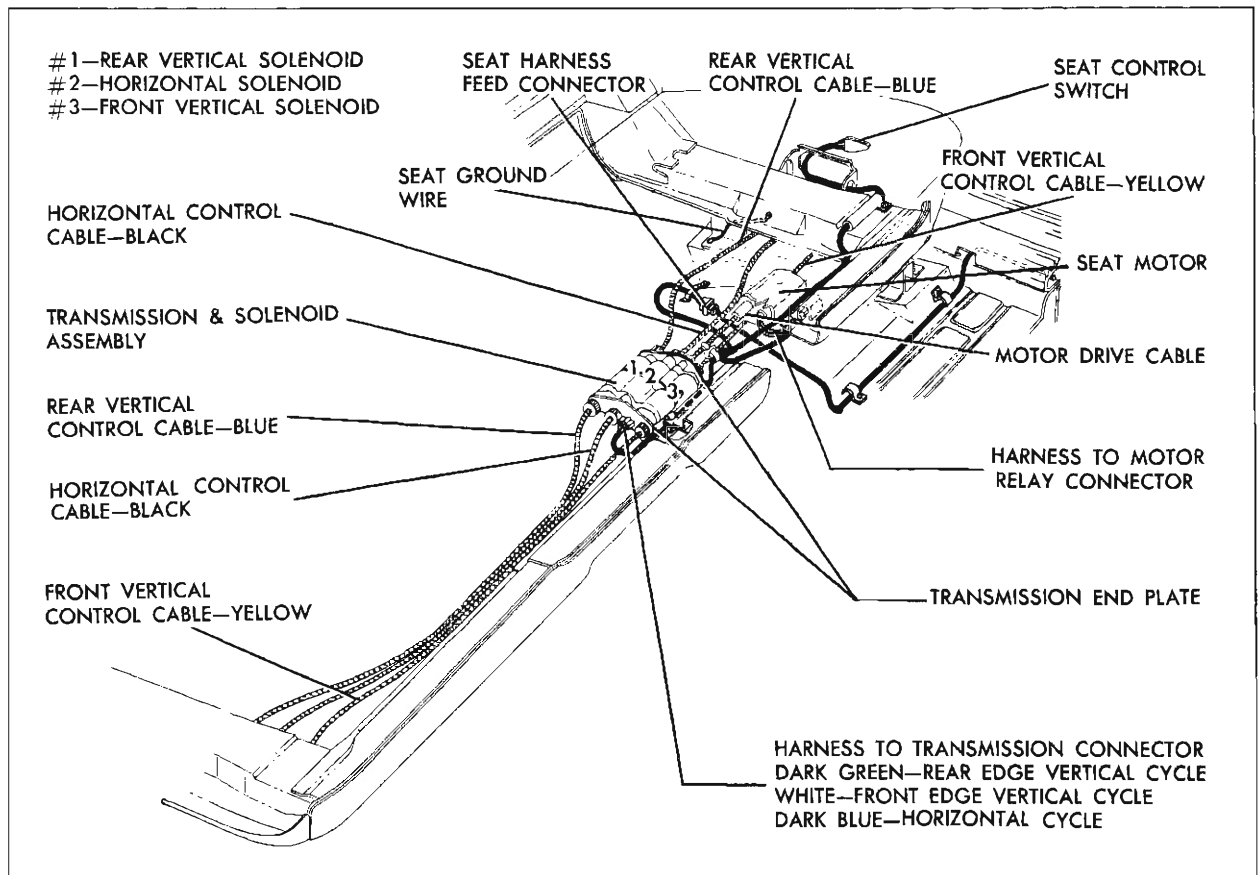

Fig. 9-14 Six-Way Seat Installation
The seat adjusters are actuated by a 12 volt motor installed at the left side of the seat assembly (Fig. 9-14). The motor is energized by a three (3) button-type control switch located in the left seat side panel.